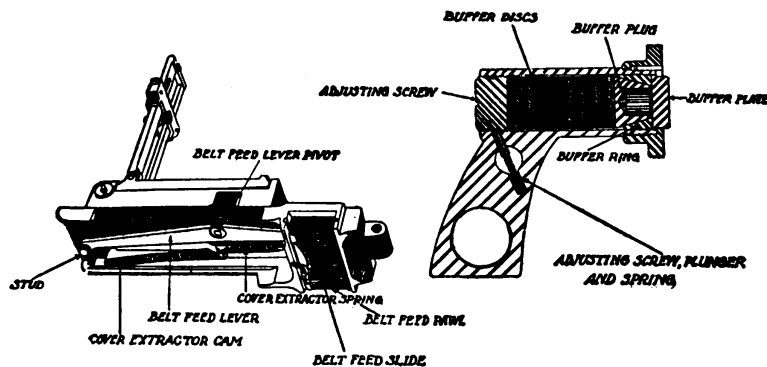

FIGURE 183.—Cover and backplate buffer groups.
Q. Point out and state the uses of the important parts shown in figure 183. A. See figure 183.